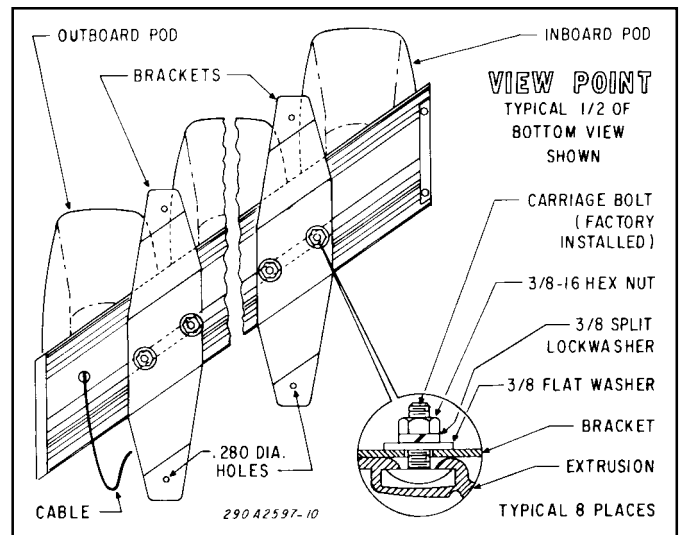

Figure 1.
2. Assemble the appropriate pair of mounting brackets on the carriage bolts (factory installed) using nuts, flat washers, and lockwashers as shown in figure 1. Position the brackets adjacent to the inboard and outboard pods allowing access to the holes used to mount the light assembly on the vehicle roof. Secure the brackets in position.